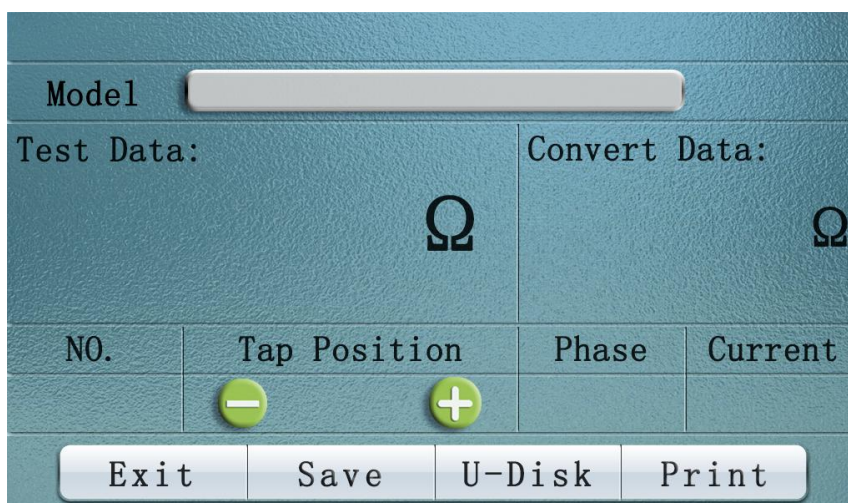

Figure 3
3、 After the current is selected, click "start measurement" to display "please wait while charging" to enter the test state. After a few seconds, the test result will be displayed, as shown in figure 3